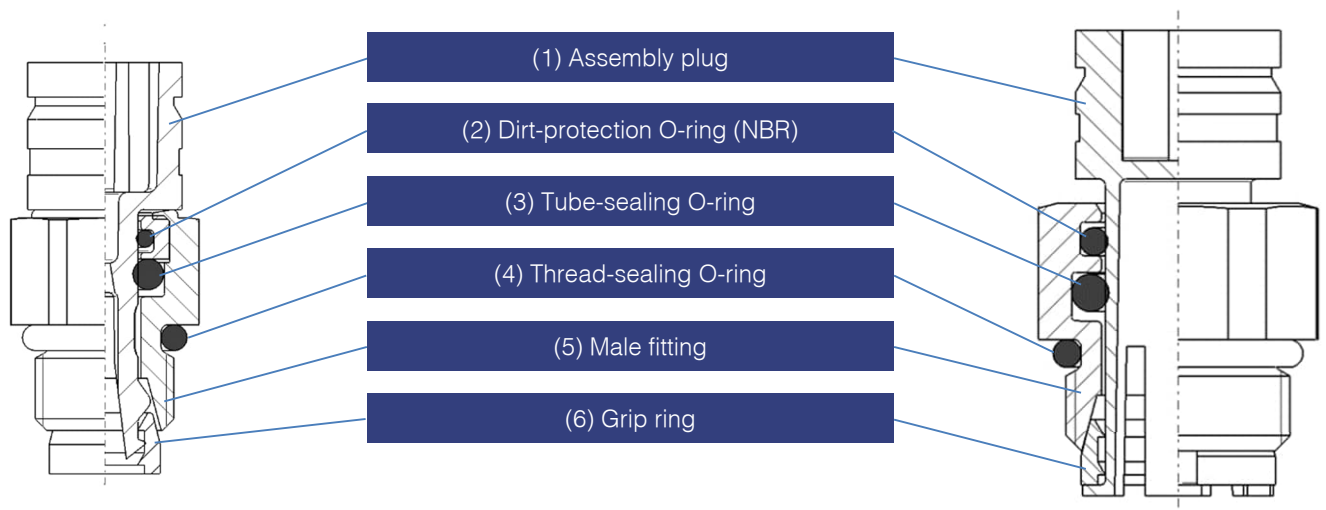

Fig. 3: Components of the assy VOSS quick connect system 203 (left: NS 4, right: NS 8)
With the integral variant a so-called assy is preassembled into a system specific profiled bore. The assy mainly consists of the male fitting (pos. 5 in fig. 3) and the grip ring (pos. 6 in fig. 3). Together with the PE/POM assembly plug (pos. 1 in fig. 3) these two parts form an assy that can be screwed directly into a system component. Upon completion of the installation and before inserting the tube the assembly plug is removed.
- The sealing of the inserted tube against the medium is made by an O-ring (pos. 3 in fig. 3).
- A second O-ring (pos. 2 in fig. 3) prevents the ingress of dirt from the environment.
- The grip ring (pos. 6 in fig. 3) holds the inserted tube in the connection. The grip ring features two retaining edges on the inside which engage in the nylon tube after it is inserted and pulled back.